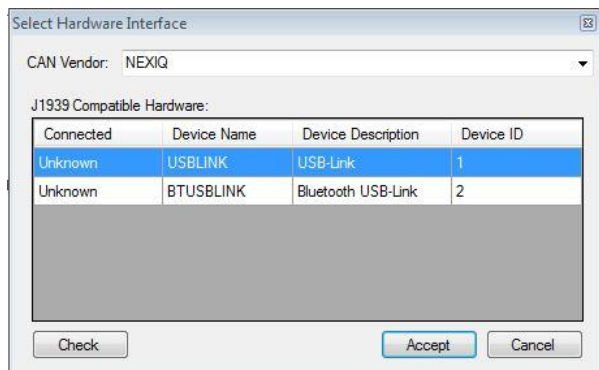

Figure 4
2.1 Select the proper CAN interface (i.e. the vendor's name). If the drivers for the selected CAN interface are properly installed, a list of the compatible hardware devices will appear (See Fig. 4).